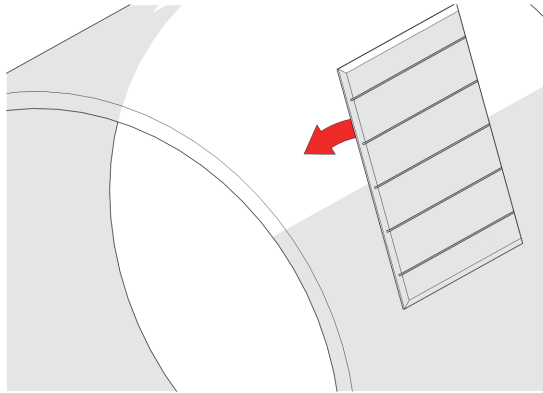

Figure 4-13 Place installation/removal mat
5. Place the installation/removal mat (see Figure 1-4 on page 40) on the inspection surface (see Figure 4-13 on page 148).